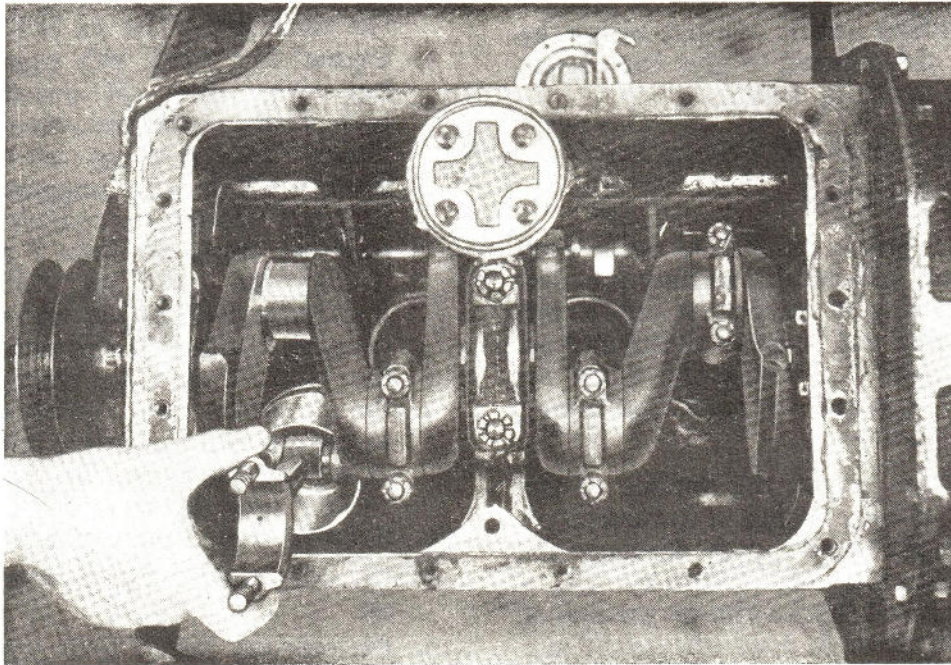

Fig. 10.
Remove pistons, and connecting rods after removal of split pins and nuts securing big end caps. To draw out pistons, place crank-pin towards camshaft and then by turning the engine slowly anti-clockwise, as the piston concerned comes against the balance weight on the crankshaft, the assembly can be moved down clear of the shaft. (See Figure 10.) Replace bearing cap and the slotted nuts on their respective bolts. Each bearing housing should already be numbered on its offside face.
18. Remove pistons, and connecting rods after removal of split pins and nuts securing big end caps. To draw out pistons, place crank-pin towards camshaft and then by turning the engine slowly anti-clockwise, as the piston concerned comes against the balance weight on the crankshaft, the assembly can be moved down clear of the shaft (See Fig. 10). Replace bearing cap and the slotted nuts on their respective bolts. Each bearing housing should already be numbered on its off-side face.